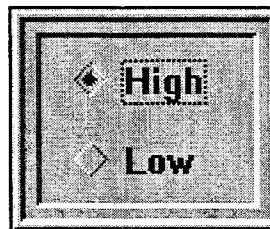

Figure 5-32 Pressure Injection Selection Box
You may designate each cycle to be either a purge-like High Pressure cycle or an injection-like Low Pressure cycle. High pressure cycles (at 100 psi) are in seconds whereas low pressure cycles (at 5 psi) are in $\text{psi} \cdot \text{sec}$. If you want to change the pressure type for the cycle being defined, double-click it. This opens the selection box shown in Figure 5-32.
1. Double-click the box under Pressure. This brings up the selection box shown in Figure 5-32.